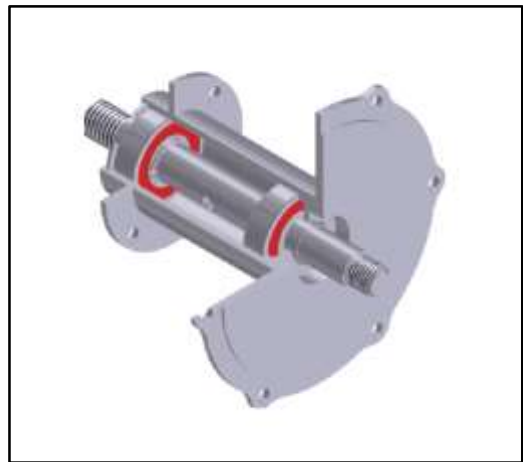

Figure 20: set bearing housing-shaft-bearings adjusted.
- d) Again with the aid of the hydraulic press, place the shaft into the bearing housing, passing it through the bearing located inside, until they fit (figure 20). Then, place the lock on the bearing housing so that the bearing is securely fixed.